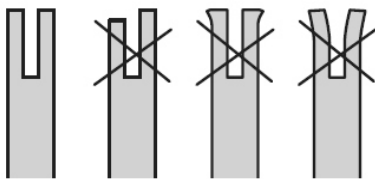

Fig. 27c
5). Check the guide bar 'rail' for wear: Hold a ruler (straight edge) against the side of the guide bar and 'cutter side plates'. If there is a gap between the ruler and guide bar the guide bar 'rail' is normal. If there is no gap (ruler flush against the side of the guide bar) the guide bar 'rail' is worn and needs to be replaced with a new one of the same type. (See Fig. 27c)